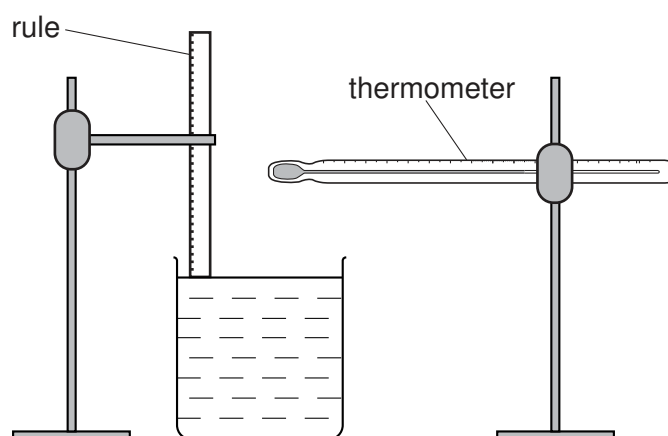

Fig. 1.1
2. The metre or half-metre rule is to be clamped vertically so that the zero end just touches the water surface as shown in Fig. 1.1.
3. The thermometer is to be clamped horizontally as shown in Fig. 1.1.